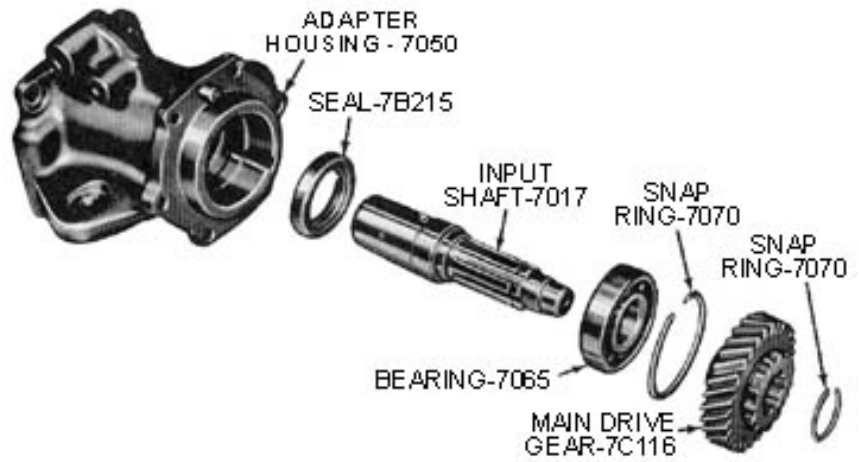

Figure 10 – Input Shaft, Disassembled
1. Remove the snap ring from the front of the shaft (Fig. 10).